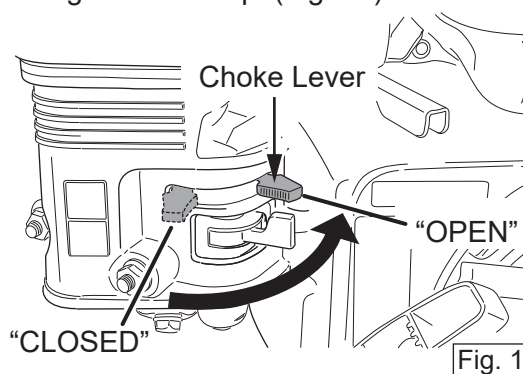

Fig. 17
7. If the choke lever has been moved to the "CLOSED" position to start the engine, gradually move it to the "OPEN" position as the engine warms up. (Fig. 17)